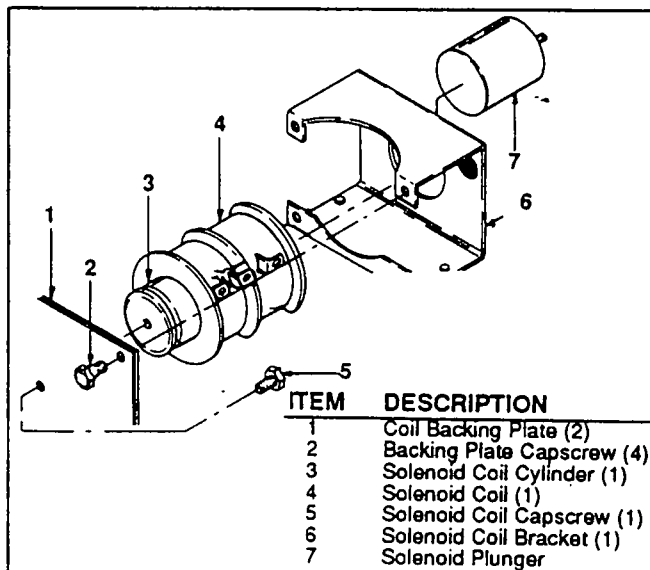

Figure 7. Solenoid Coil Removal
1. See Figure 7. Remove four capscrews that retain the coil backing plate.